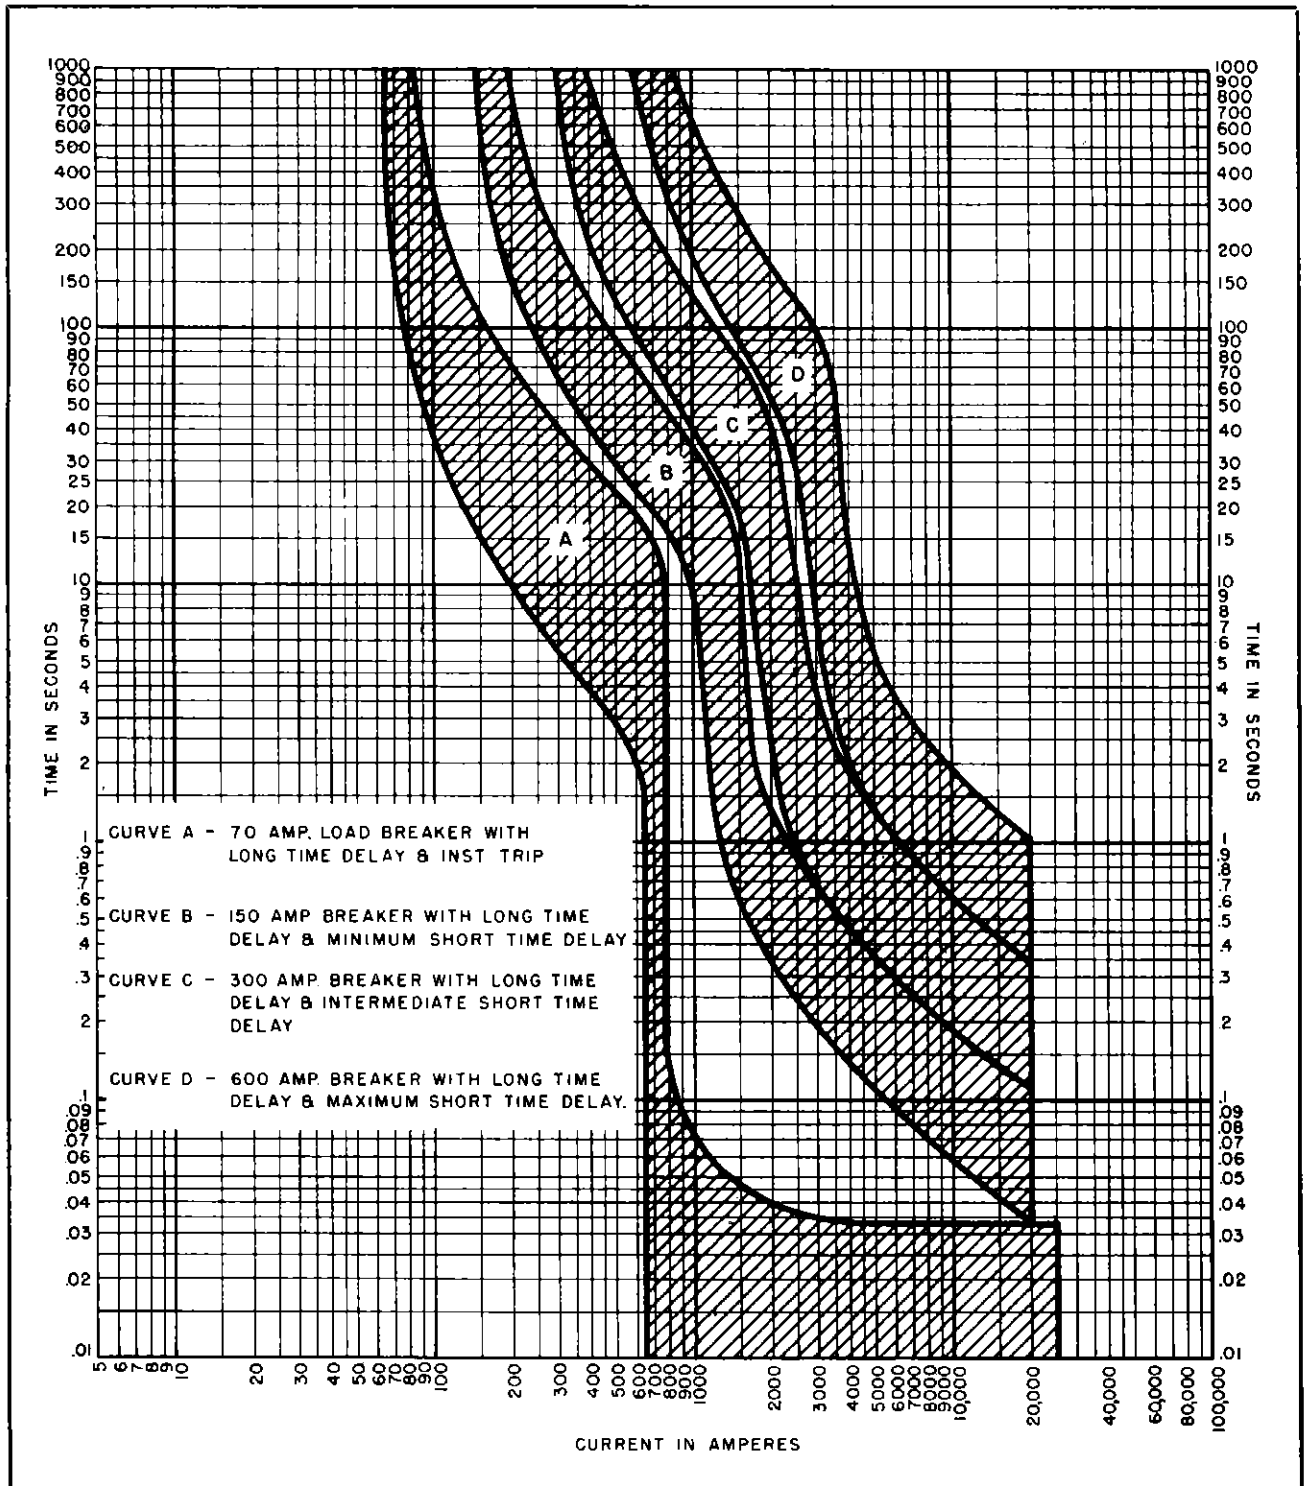

FIG. 8A. Time-current Characteristics of DB-25 Circuit Breakers Equipped with Typical Overcurrent Tripping Devices for Motor Starting and Selective Operation
2. *Selective Devices.* Long time delay and short time delay elements with adjustable long time delay pick-up. Curves B, C and D of Fig. 8A show typical curves of these devices. The short time delay pick-up must be selected in advance to meet the requirements of the application.